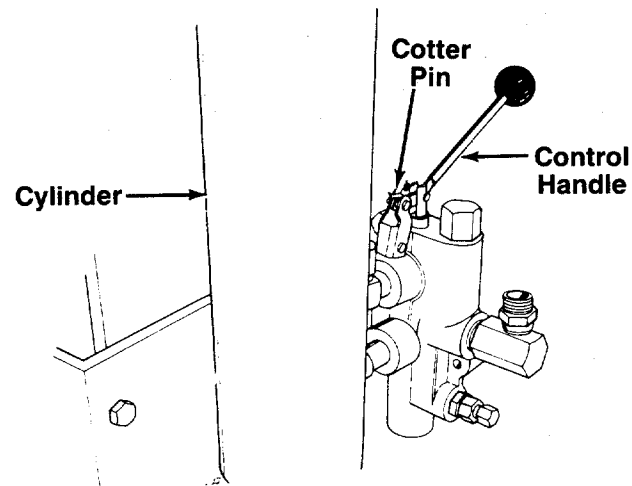

FIGURE 9.
2. The bottom of the control handle is already attached to the valve with a cotter pin and clevis pin. Remove the second cotter pin and clevis pin which are attached to the valve only. Place the handle in position, and secure using the second cotter pin and clevis pin. See figure 9.